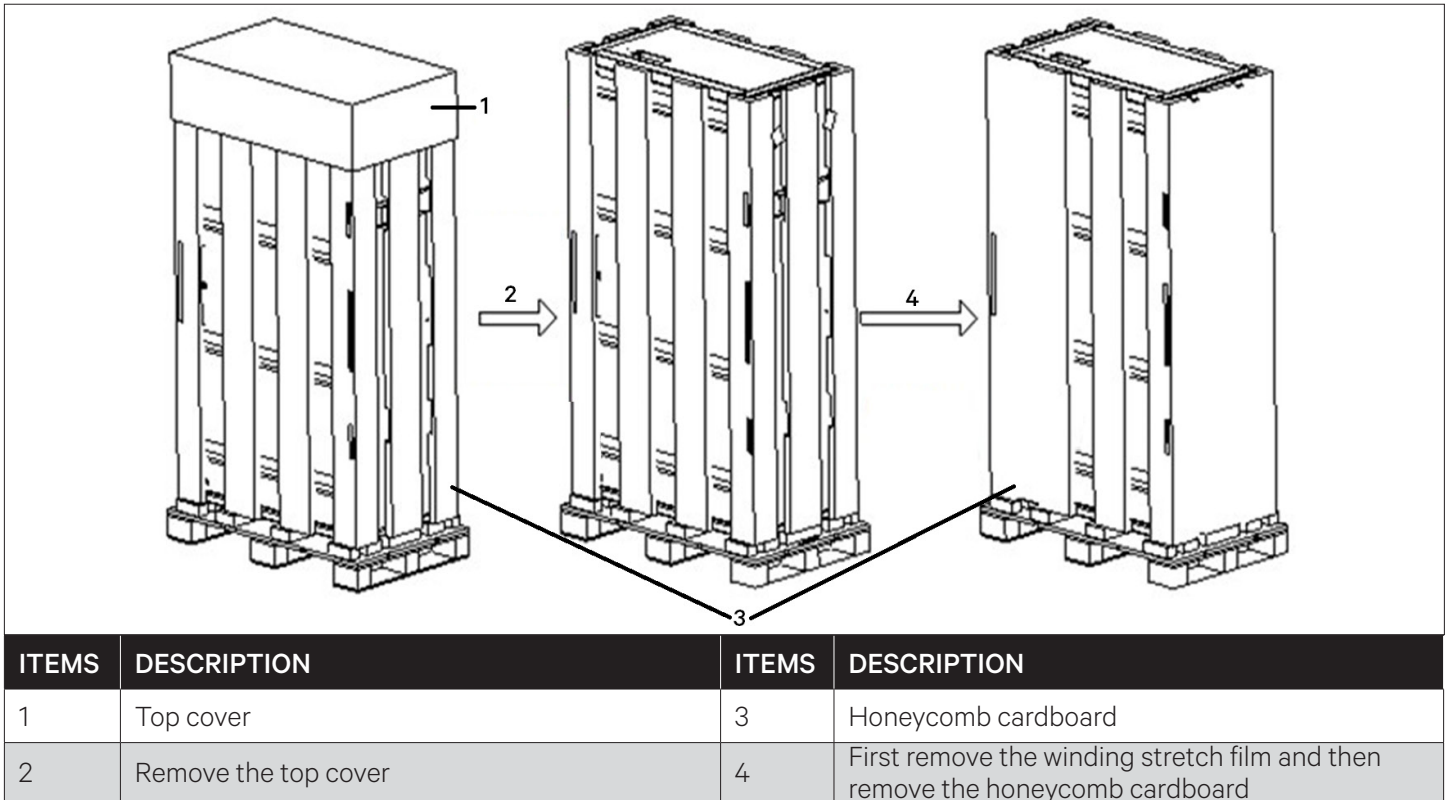

Figure 2-4 Unpacking the Unit
1. First remove the top cover and winding stretch film, then remove the honeycomb cardboard, as shown in Figure 2-4.